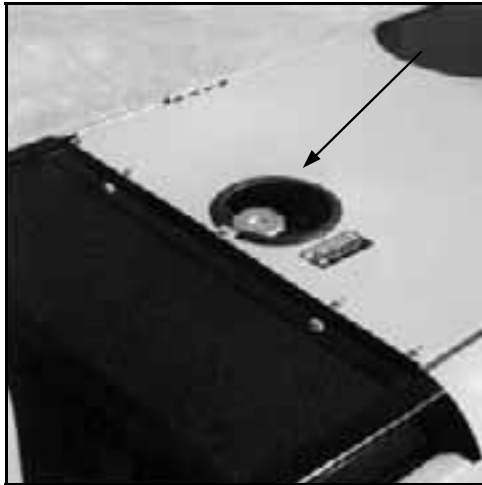

FIG 7.6
**CHECKING CONCENTRATION** - The radiator cap is located immediately behind the rear of the operator's station (fig. 7.6). Never remove a cap from a hot engine. Always allow the engine to cool before servicing cooling system.